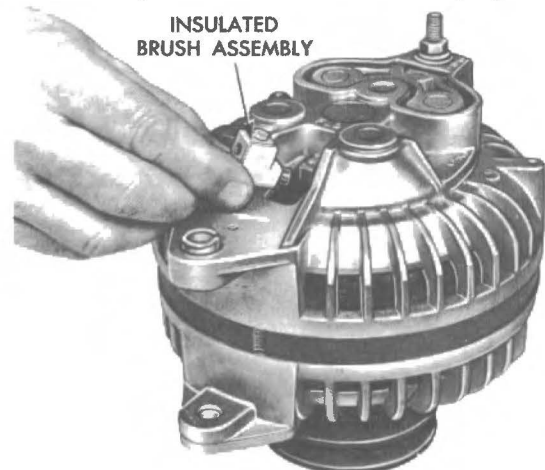

Fig. 20 - Removing or installing insulated brush.
(1) Remove the retaining screw lock-washer, insulated washer and field terminal, and carefully lift plastic holder containing the spring and brush assembly from the end housing (Fig. 20).